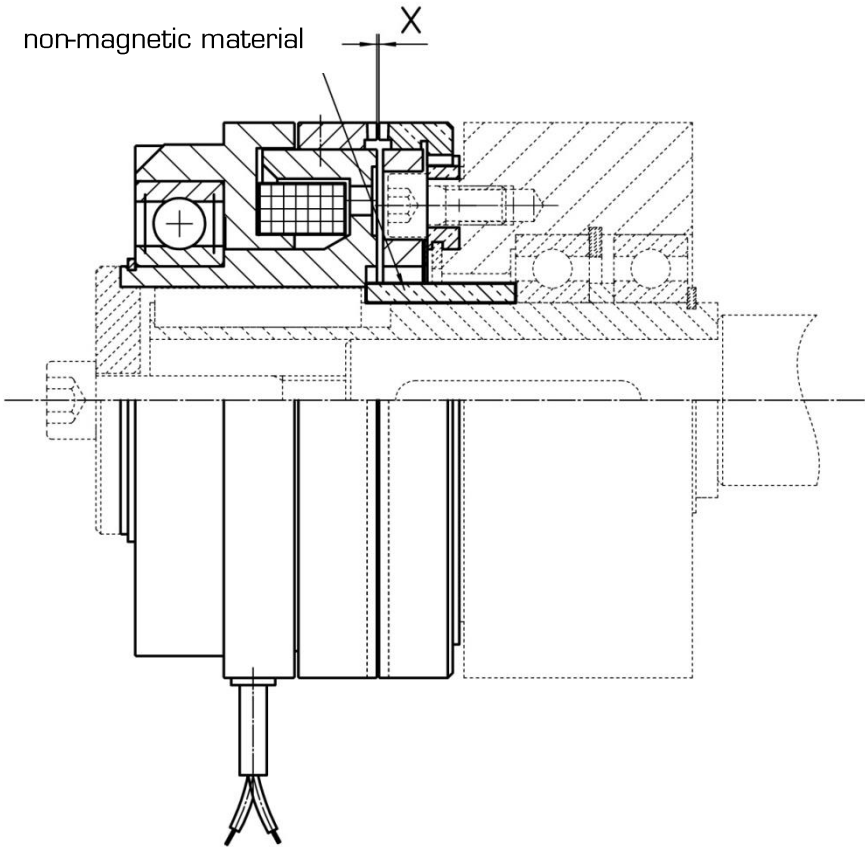

Figure 5: Spacer sleeve for setting the idle speed air gap
- The spacer sleeve (for setting the idle speed air gap) underneath the armature must be made of an antimagnetic material (see fig. 5).